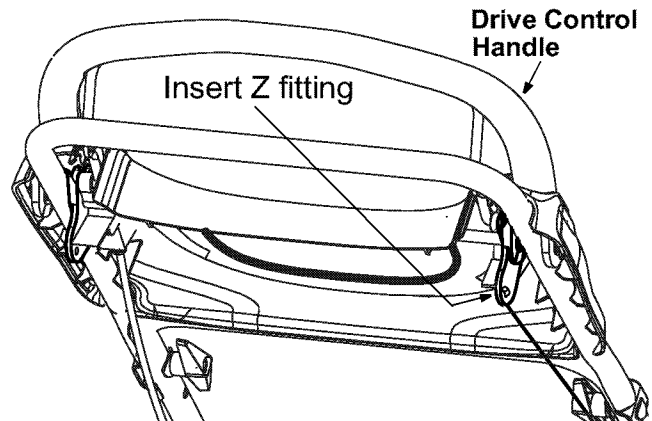

Figure 3
6. While holding the drive control handle, hook the “Z” end of the drive cable into the bottom hole of the drive control handle from inside to outside. See Figure 3.